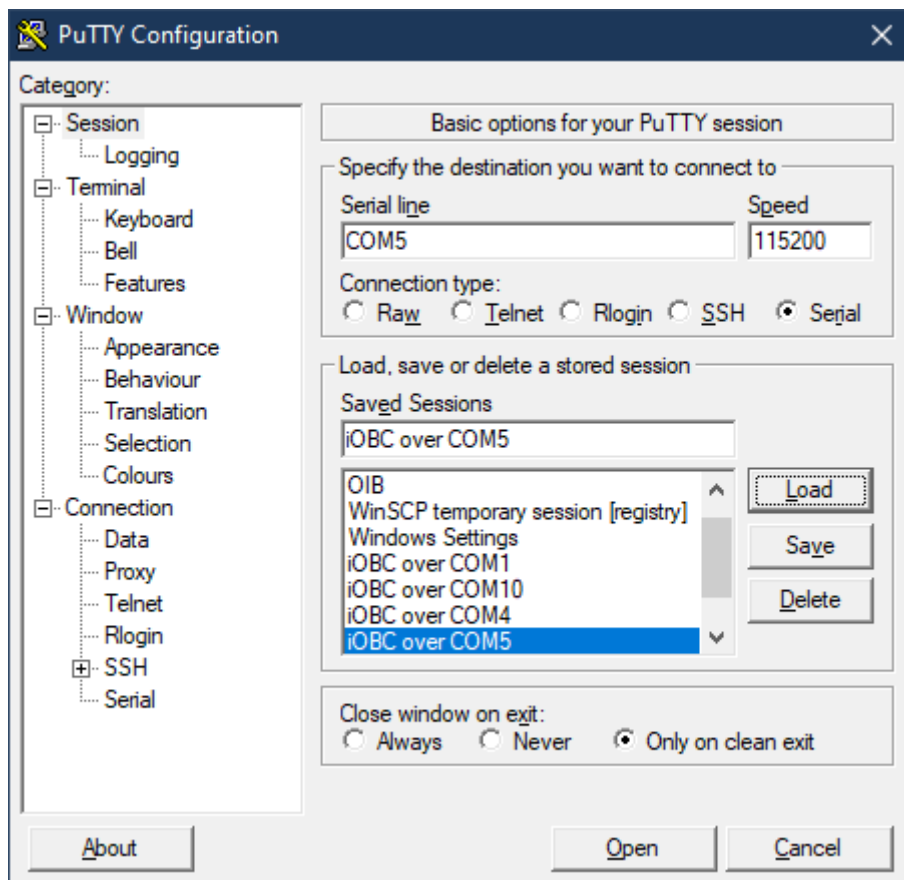

Figure 20 - Putty configuration window
- Start the putty executable found via Start > All Programs > ISIS-OBC SDK > PuTTY. A window similar to Figure 20 is shown. Select Serial and set the speed to 115200 (115.2kbaud).